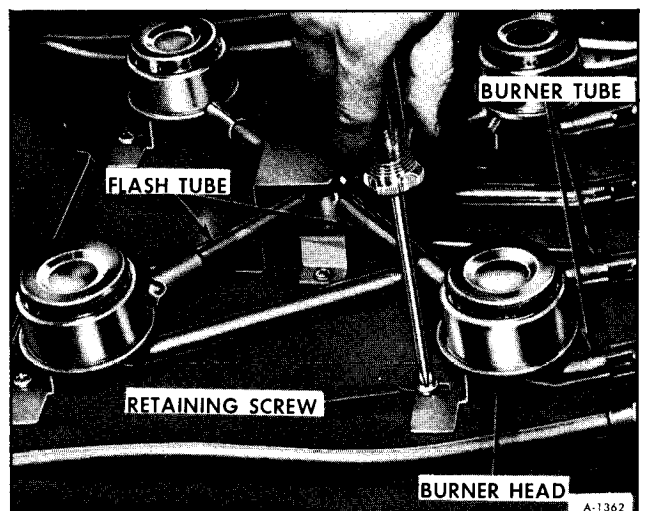

Figure 22—Top Burner Removal
2. Remove single screw holding burner head to range top (figure 22).